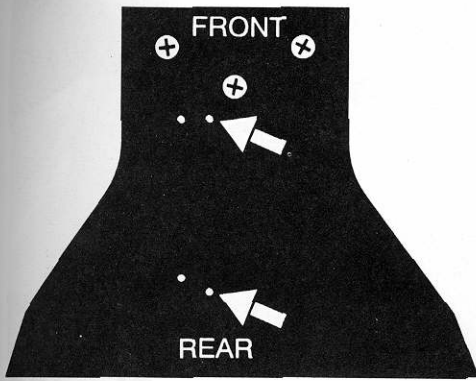

Fig. 152
□ **Fig. 152** All of the servos mentioned above are medium size servos; we no longer recommend using small servos. In fig. 152 you will see four mounting holes. For a medium size servo we will use the two holes closer to the centerline of the chassis and spaced further apart, as indicated by the arrows.